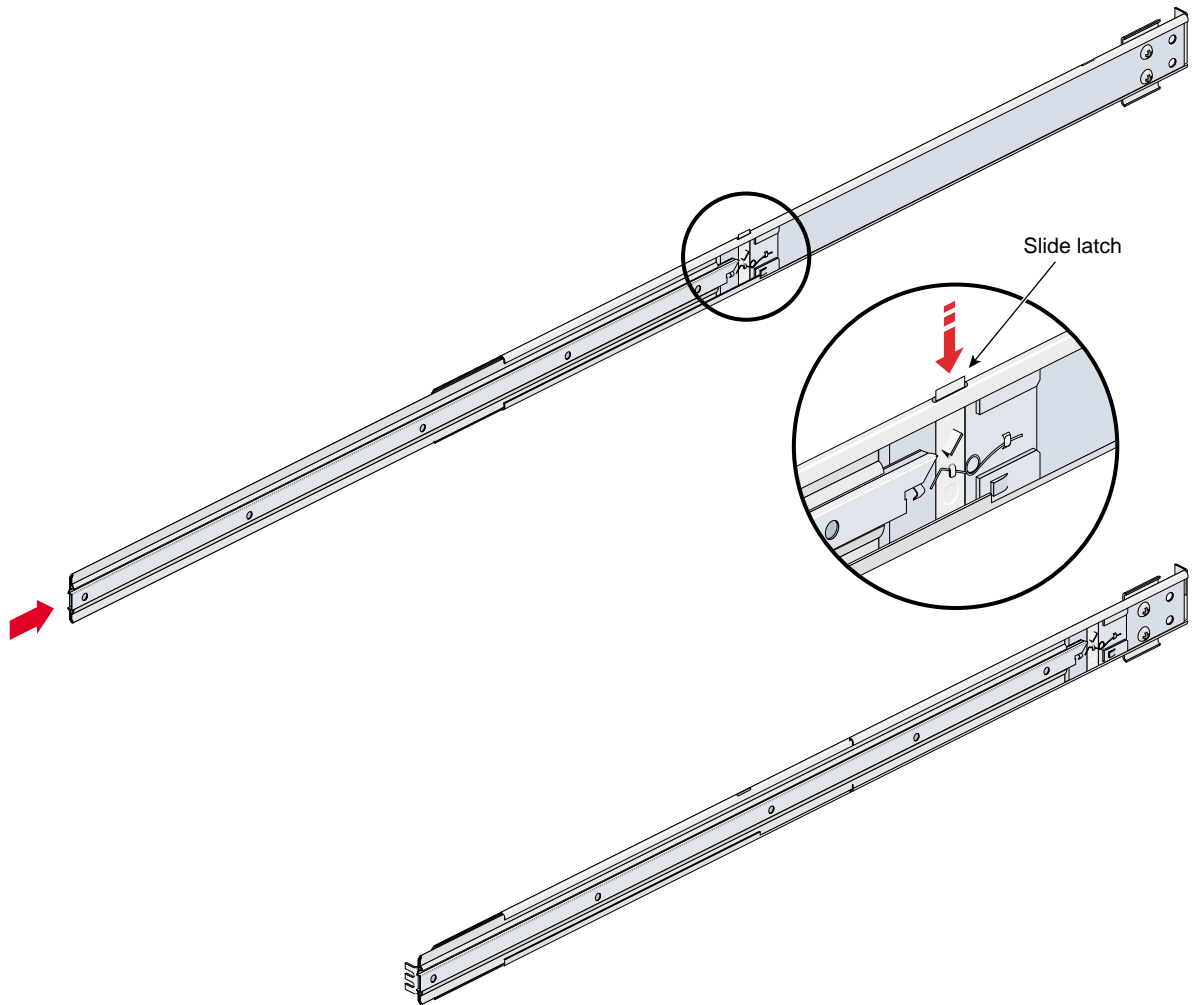

Figure 1-22 Releasing the Slide Latches
7. To slide the slide rails back into the rack, push down on the slide latches as shown in Figure 1-22.